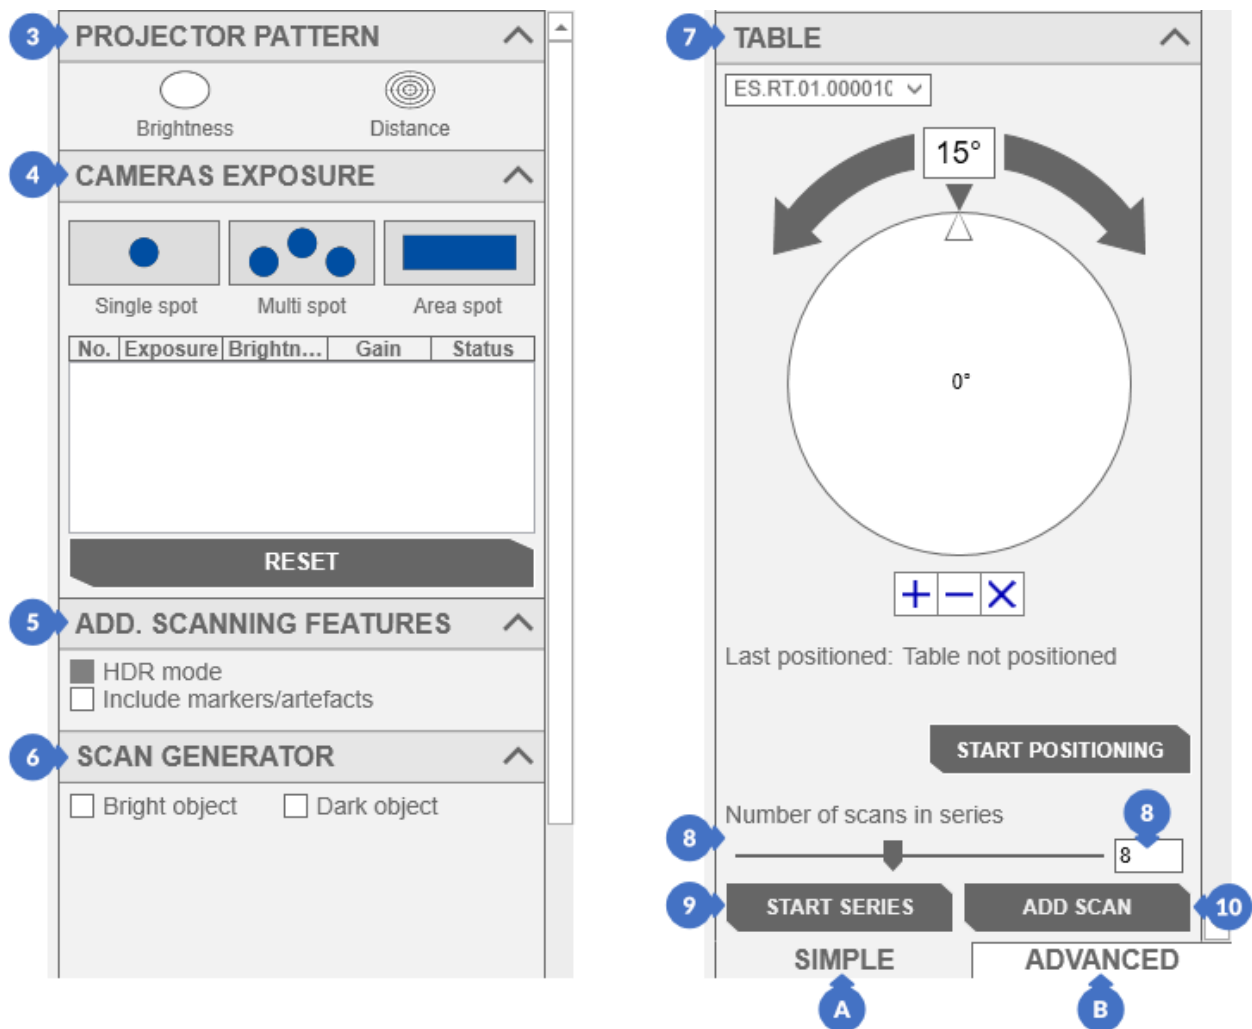

Figure 258. *SIMPLE* mode with the rotary table scanning
- (6) – scan generator settings (*SCAN GENERATOR*) allow you to enter predefined default settings for scanning dark objects (*Dark object*) or restore the point cloud generator settings to the default settings (*Bright object*),
- Black object and White object options has already been covered can be found in Scan mode in Subsection 15.1.2, point (6) – White object and point (7) – Black object.*
- (7) – rotary table settings, including the positioning process, can be found in the *TABLE* tab,
- (8) – the *Number of scans in series* slider is used to set the number of scans to be performed. The slider range is from 2 to 16 scans,
- (9) – the button that starts the scan series (*START SERIES*) performs the number of scans set on the *Number of scans in series* slider,
- (10) – the (*ADD SCAN*) button takes one scan and adds it to the last scanned group
To perform a scan on the table, set the object (or pattern for positioning the table) and then set the appropriate distance of the scanner from the object using the target (*Distance*) pattern. Once the scanner has been set up, adjust the exposure and brightness of the projector to the current lighting conditions and check whether the markers on the positioning pattern are detected. Then you need to position the table. After positioning the table, replace positioning pattern with the object to be scanned, adjust the exposure and brightness of the projector, set the number of scans on the table *Number of scans in series* (9) or define individual angles of the table rotation and click on *START SERIES* (10) to execute the series on the table (Figure 258).